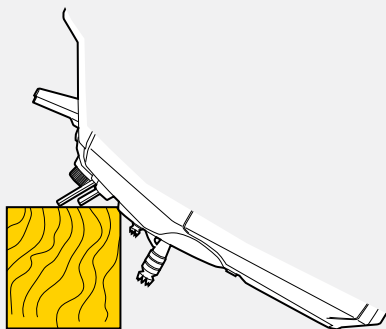

Fig. 14
4. Place the transmitter on a wooden (or similar) block to prevent the sticks from touching the working surface (see [\[Fig. 14\]](#)). Work on a soft surface.